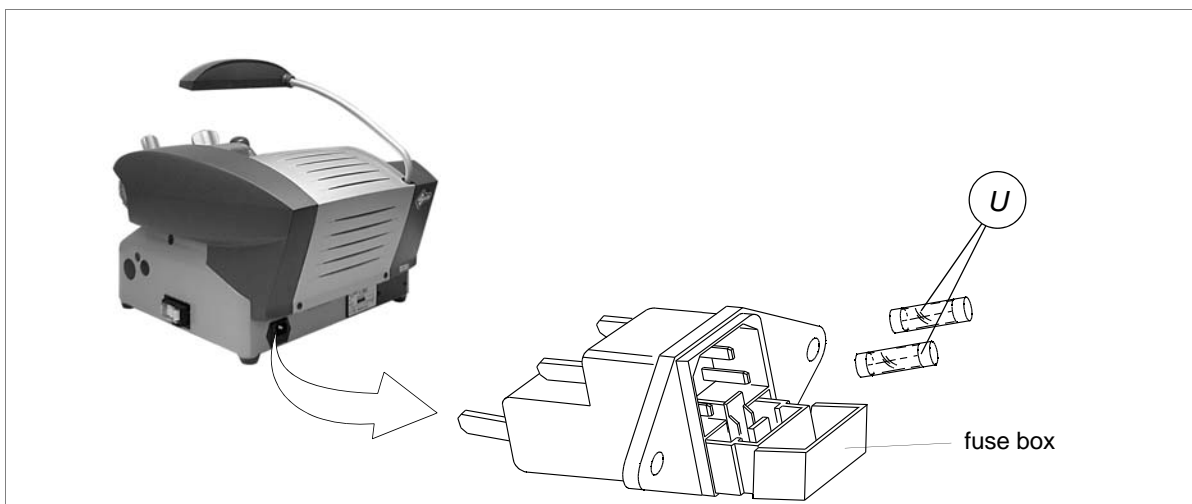

Fig. 29
- 3) Remove the fuses box placed below the key-cutting machine socket (fig.29).
- 4) Replace the fuses (U).